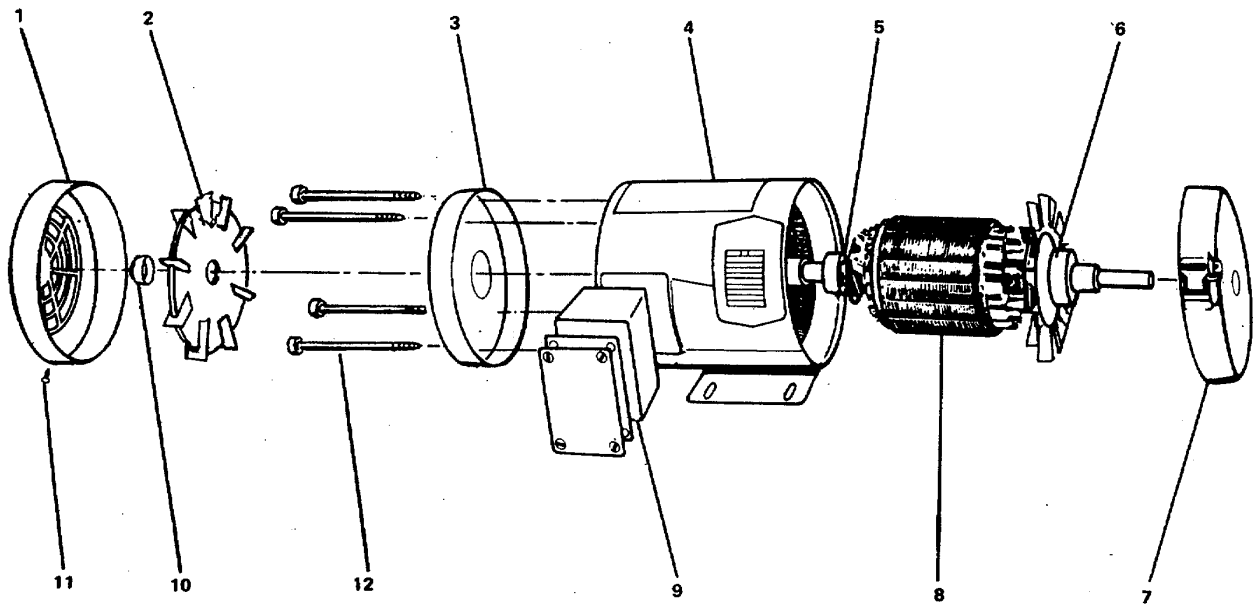
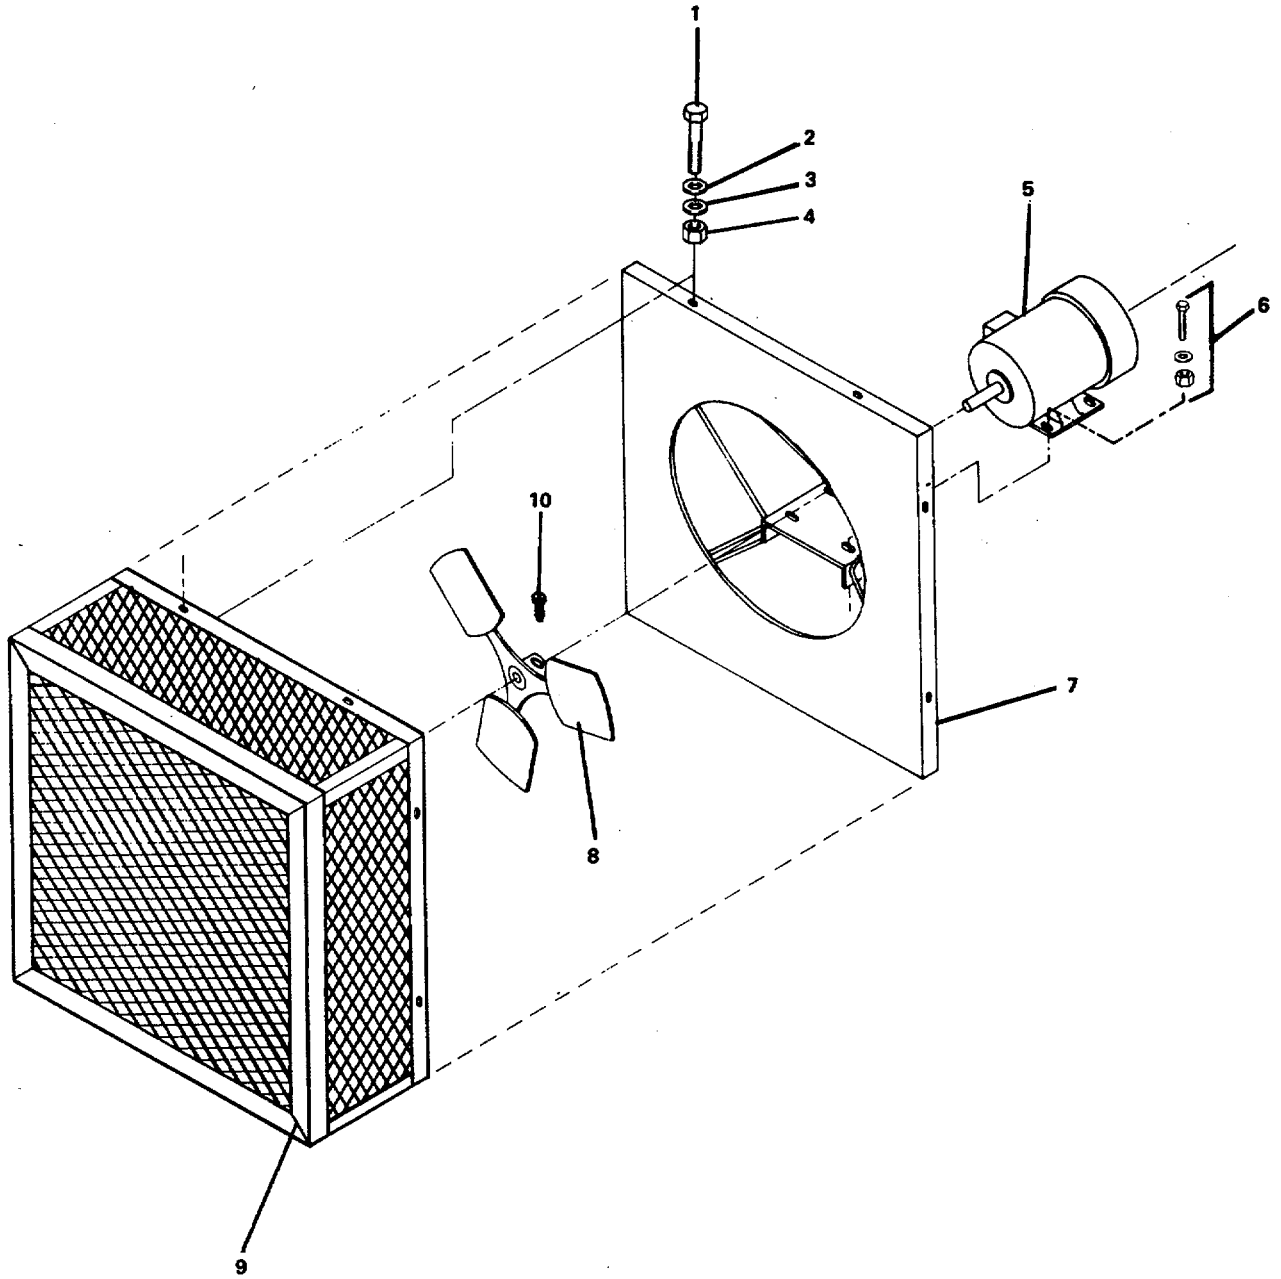

Figure 2-16. Alternating Current Electric Motor.
Figure 2-17. Ventilating Fan (Supply Fan #5).
- b. Install mounting bolt, nut, and lockwasher assemblies (10) in each end of the fan drum (9).
- d. Connect electrical wires to their proper terminals on the motor (5).
- e. Install weather cover (1) with bolts (12).
- (1) Turn electrical power ON.
- (2) Start and run fan to check for proper operation.
- (3) Remove "Out of Service" tag from circuit breaker.
**2-26. Replace/Repair Motor, Electric, Alternating Current (Supply Fan #4). (FIGURE 2-16)**
- b. Tag and disconnect electrical wiring in motor terminal box (9, FIGURE 2-16).
Repair consists of replacing bearings (5) and (6), FIGURE 2-16.
- (2) Install motor mounting bolt, nut, and lockwasher assemblies (6). Do not secure until pulleys (3) and (11) are aligned.
- (3) Align pulleys (3) and (11), install V-belt (2) and adjust tension (paragraph 2-25).
- (4) Connect electrical wiring to proper terminals in motor terminal box (9, FIGURE 2-16).
- (3) Remove "Out of Service" tag from circuit.
**2-27. Repair Fan, Ventilating (Supply Fan #5) (A/C and Emergency Generator Room). (FIGURE 2-17)**
- a. Remove bolts (1), flat washers (2), and lockwashers (3) and nuts (4) and remove box guard (9, FIGURE 2-17).
- b. Loosen setscrew (10) and remove impeller (8) from motor (5) shaft.
- c. Tag and disconnect wiring from motor (5) terminal box.
- d. Remove the panel (7) with motor (5) from its mounting.
Repair consists of replacing the alternating current motor (5, FIGURE 2-17) or the motor bearings (5, 6, FIGURE 2-16).
- a. Remove the motor (5, FIGURE 2-17) from panel (7) as follows:
- (1) Remove bolt, nut, and lockwasher assemblies (6).
- (2) Remove the motor (5).
- c. Install the motor (5, FIGURE 2-17) on panel (7) mounting plate as follows:
- (1) Position motor on mounting plate.
- (2) Install mounting bolt, nut, and washer assemblies (6).
- (3) Tighten bolts firmly.